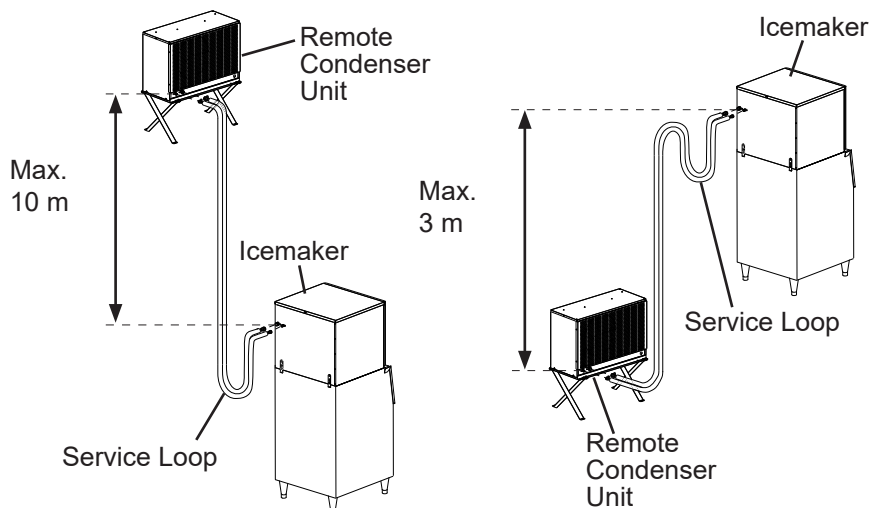

Fig. 8
- The maximum vertical distance between the remote condenser unit and the icemaker is 10 m above or 3 m below the icemaker. These distances are measured fitting to fitting. See Fig. 8.